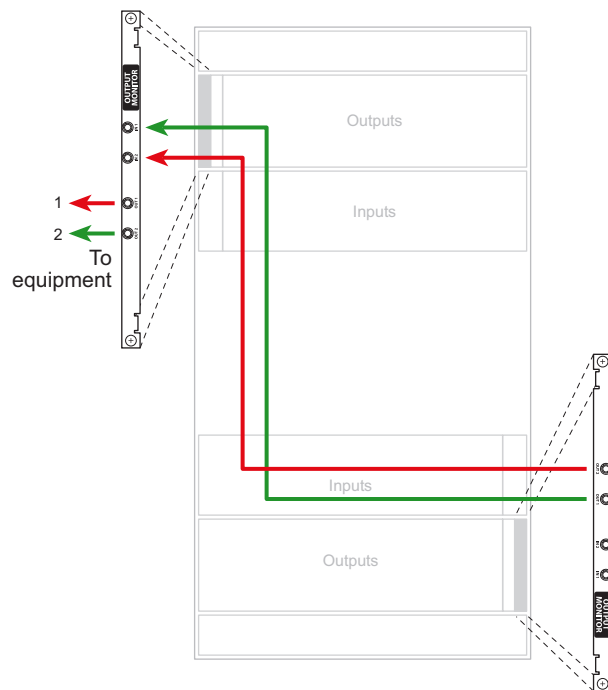

Figure 2-24. Monitor Connections for NV8576(Rear View)
Connect ‘OUT 1’ of the output monitor backplane in the lower bay, to ‘IN 1’ of the output monitor backplane in the upper bay, as shown in Figure 2-24
Similarly connect ‘OUT 2’ of the output monitor backplane in the lower bay, to ‘IN 2’ of the output monitor backplane in the upper bay, as shown in Figure 2-24.
Connect ‘OUT 1’ and ‘OUT 2’ of the output monitor backplane in the upper bay to your monitoring equipment, as shown in Figure 2-24:
- a Connect ‘OUT 1’ of the input monitor backplane in the lower bay, to ‘IN 1’ of the input monitor backplane in the upper bay, as shown in Figure 2-24
- b Similarly connect ‘OUT 2’ of the input monitor backplane in the lower bay, to ‘IN 2’ of the input monitor backplane in the upper bay, as shown in Figure 2-24.
- c Connect ‘OUT 1’ and ‘OUT 2’ of the input monitor backplane in the upper bay to your monitoring equipment, as shown in Figure 2-24: